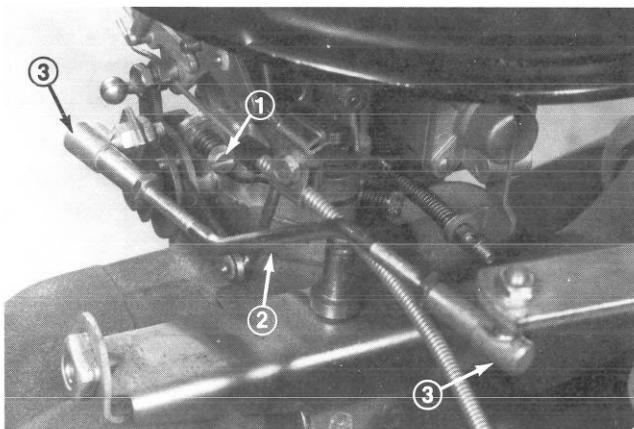
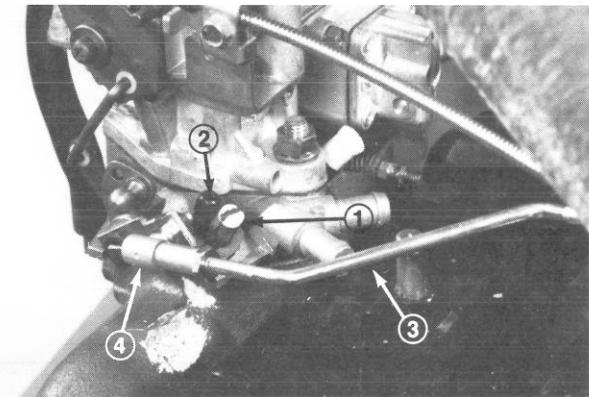
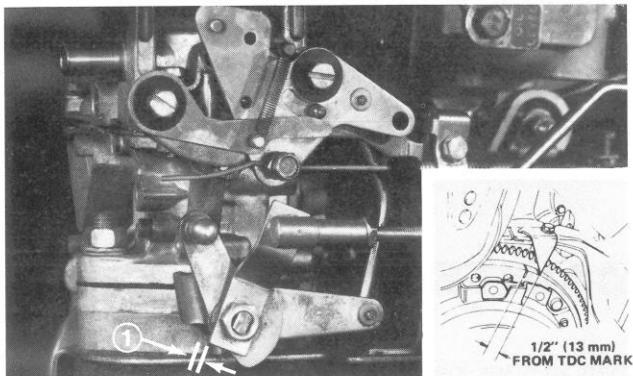
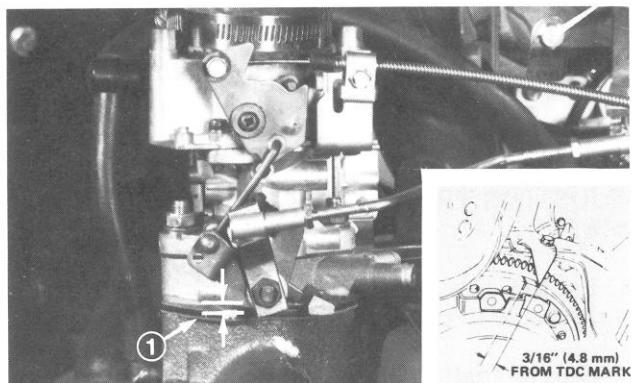

Figure 38
Figure 39
Figure 41
Figure 42
Two different style carburetors are used on the Groundsmaster 327; one with a single idle speed screw (Fig. 38) and one with an idle speed screw plus a choke idle speed screw (Fig. 39). Adjustment procedures for proper idle speed are identical.
Engine equipped with carburetors with a choke idle speed screw (Fig. 39) should be adjusted to operate at 2000 rpm when the engine is "cold started".
There are two timing marks on the flywheel. The saw-cut mark is TDC – top dead center – and the chisel mark, depending upon the carburetor used (Fig. 41, 42) is either 7° BTDC – before top dead center (Fig. 41) or 2° BTDC (Fig. 42). Time the engine to either 2° BTDC or 7° BTDC at 700 to 800 rpm. After timing, set idle speed back at 1450 to 1550 rpm. Idle speed must be 1450 - 1550 rpm to prevent damage to the transmission.
1. Move throttle control to FAST position and open hood. Check between the throttle arm and the stop on carburetor base to make sure there is 1/32 inch (0.794 mm) gap (Fig. 41 or 42). If gap is not correct, adjust throttle rod (Fig. 38 or 39) by turning ball joint ends until gap is 1/32 inch (0.794 mm). If gap is correct, proceed to step 2.
2. Start engine and move throttle to SLOW position. Allow engine to warm up to normal operating temperature and rotate idle screw (Fig. 38 or 39) to set idle at 1450 to 1500 rpm.